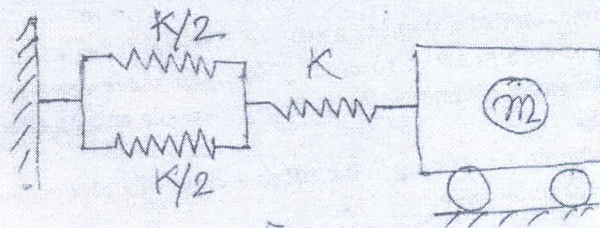

Fig. 1.
1. Find the natural frequency of the system shown in fig.1 below. [5]